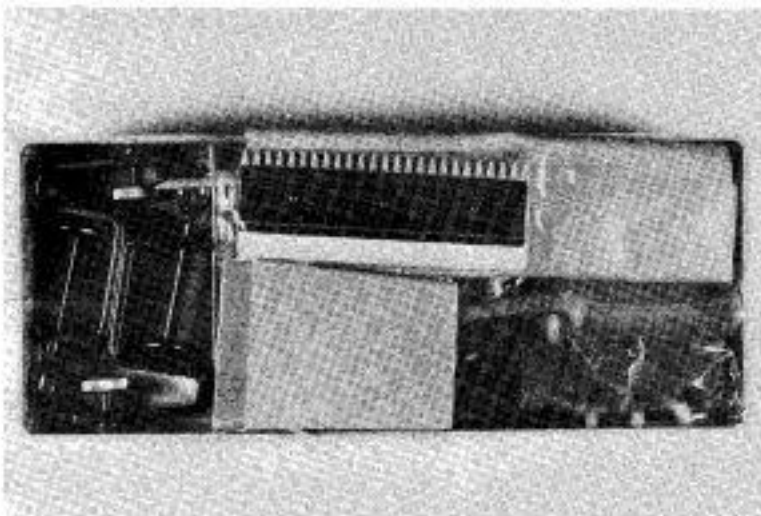

Fig. 7
3. Take out the Accessory Box. (Fig. 7)